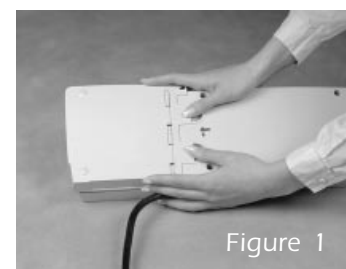

Figure 1
- Turn Back-UPS Office upside down. Use both thumbs to push battery cover tabs in and away from unit. (Figure 1)